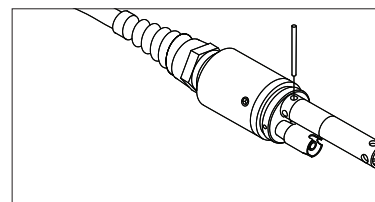

Figure 4. Installation tool used to tighten stainless steel retaining nut of 5560 conductivity/temperature sensor.
6. Once completely installed, the nut will seat flat against the bulkhead. At this point, use the tool that was included with the sensor to turn the nut an additional  $\frac{1}{4}$  to  $\frac{1}{2}$  turn so it cannot come loose (figure 4). DO NOT over tighten.